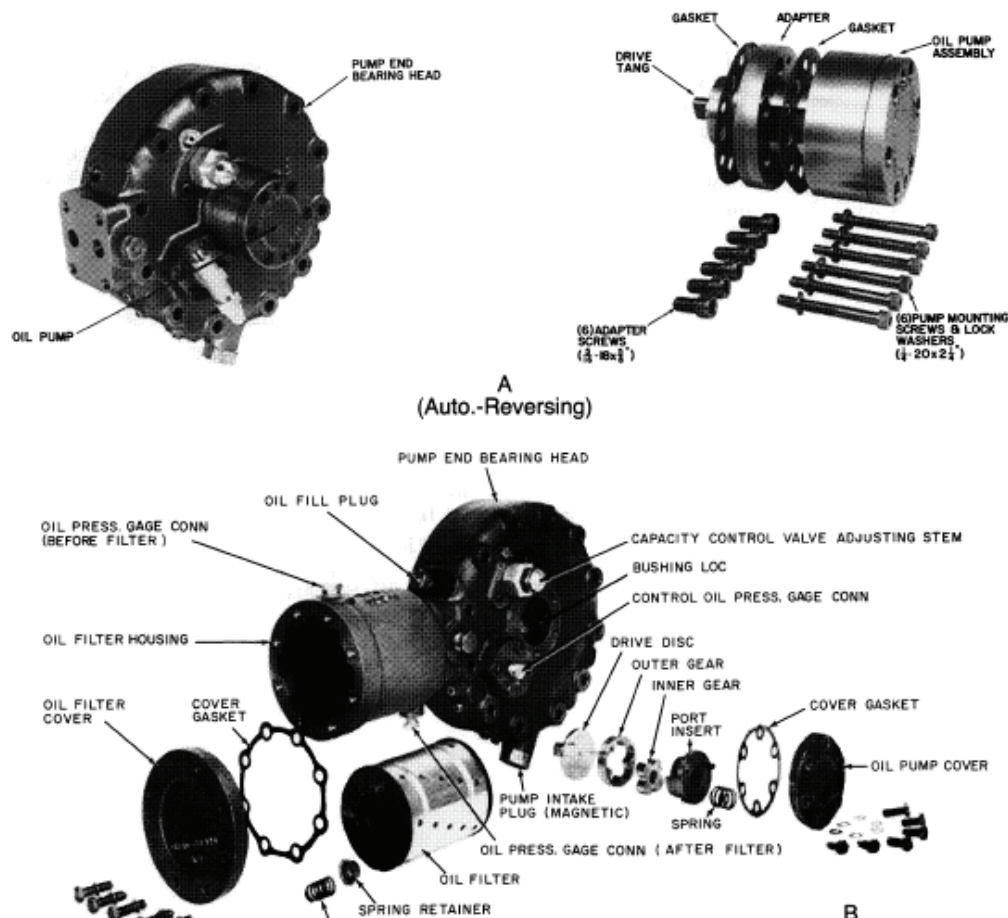

Fig. 2 — Oil Pump and Filter Assembly (5H120, 126)
IMPORTANT: The full-flow oil filter, on 5H120 and 5H126 compressors only, contains a replaceable cartridge. Replace the filter cartridge after the first 100 hours of compressor operation. After the initial filter change, check yearly for filter clogging. If the pressure difference across the filter exceeds 5 psig, pump down the compressor and then remove the cartridge. Fig. 2 illustrates complete filter assembly parts (cartridge not shown in Fig. 2).
5H120,126 compressors, with automatically reversing oil pump. Refer to Fig. 2 (A) and Table 3.
5H120,126 compressors, with manually reversing oil pump. Refer to Fig. 2 (B), 4 and Table 3.
Refer to Fig. 2, 7, 9 for 5F and 5H manually reversing oil pumps. Also refer to 5H120, 126 section "AUTO REVERSING OIL PUMP" on page 10.